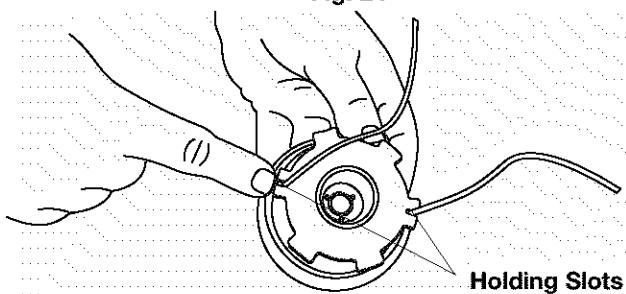

Fig. 25
- Insert one line end into each holding slot (Fig. 25).